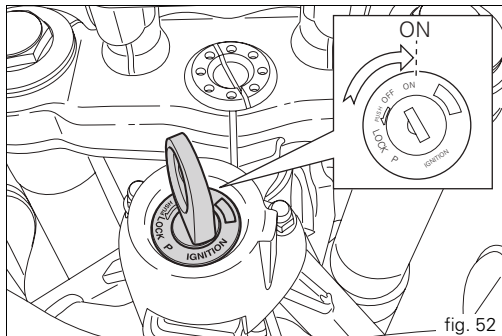

fig. 52
- 1) Turn the ignition switch to ON (fig. 52). Check that both the green light N (8, fig. 4) and the red light  (7, fig. 4) on the instrument panel come on.